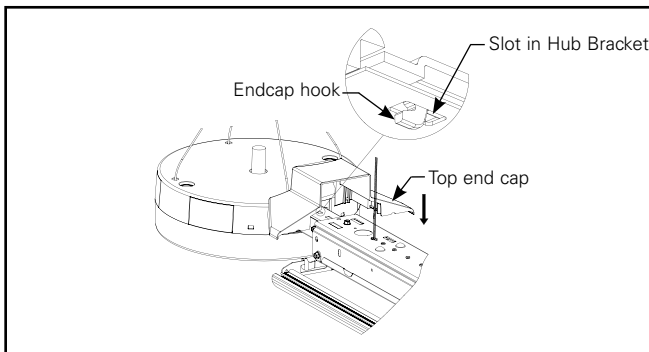

Figure 12.1.
- A. Locate top end cap hook in the hub bracket slot between fixture assembly and hub assembly (Figure 12.1)